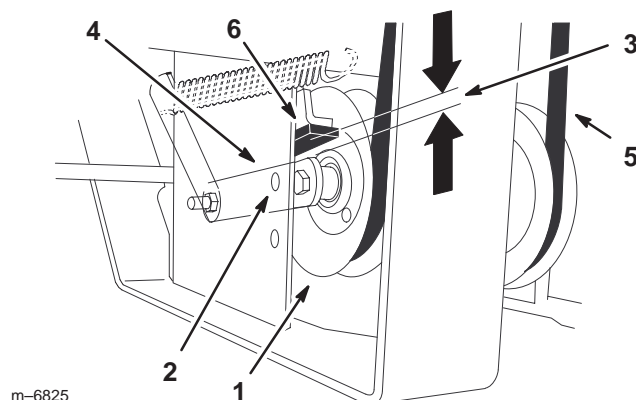

Figure 73
9. Check the distance from the rubber stop and the arm of the spring loaded idler pulley when the idler plate is tightened. It needs to be 0 to 1/4 inch (0 to 6 mm) from the rubber stop (Fig. 73).